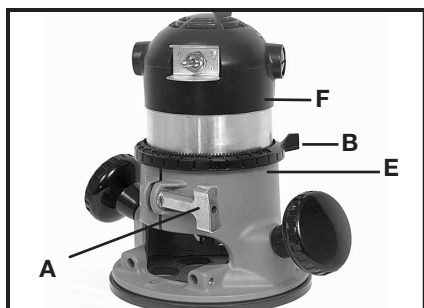
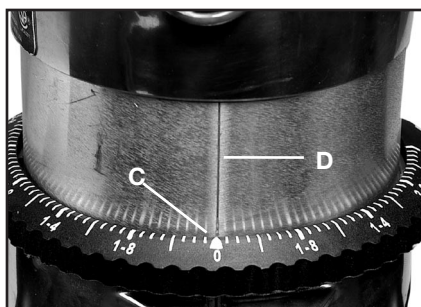

Fig. 3A
Fig. 3B
1. Open the clamp (A) Fig. 3A.
2. Hold the base (E) and turn the power unit (F) Fig. 3A COUNTER-CLOCKWISE until the tip of the bit is above the bottom of the base.
4. Turn the power unit (F) Fig. 3A CLOCKWISE until bit touches the work.
5. Close the clamp (A) Fig. 3A.
6. Rotate the depth adjusting ring (B) Fig. 3A until the zero-line (C) Fig. 3B is opposite the index line (D) Fig. 3B on the housing.
7. Open the clamp (A) Fig. 3A.
8. Tip the router so that the bit is clear of the wood surface. Turn the power unit (F) Fig. 3A CLOCKWISE until the index line (D) Fig. 3B on the motor housing reaches the desired depth indicated on the ring.
9. Close the clamp (A) Fig. 3A.